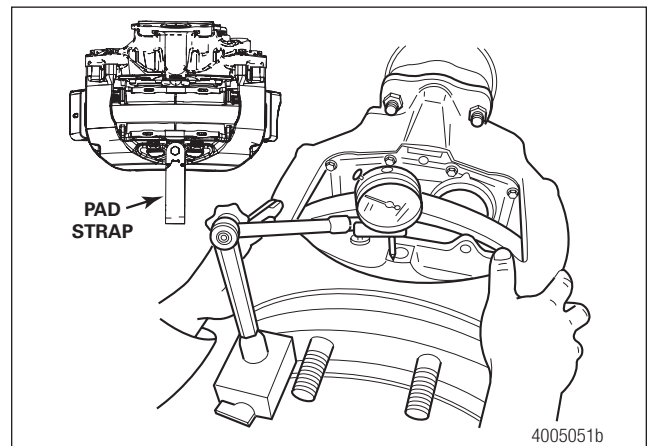

Figure 6.15 Dial Indicator Position on Caliper
1. Loosen the pad strap and reposition it 180 degrees from the installed position. Retighten the pad strap bolt to 20 lb-ft (27 Nm) so that the strap does not move. Figure 6.15.
- Attach a dial indicator onto the vehicle hub and set it against the caliper. Figure 6.15.